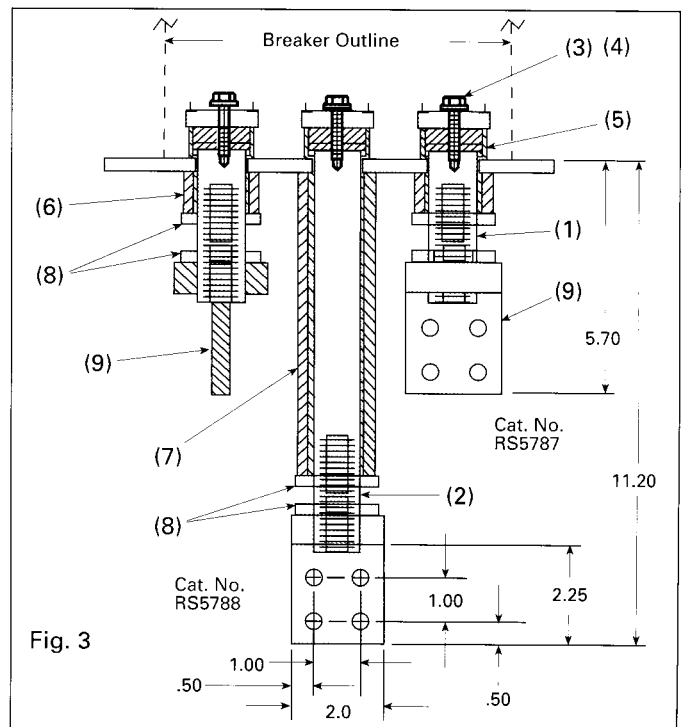

Figure 3
Final Assembly (Figure 3)
- Make desired bus bar connections using 5/16" bolts and washers to "T" connectors. (See Figure 3 for hole pattern of "T" connector).